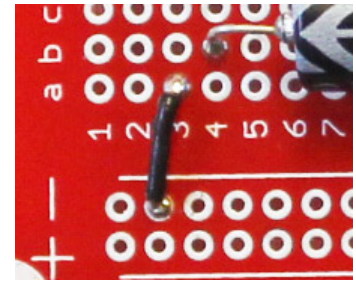

Figure 10
10. Prepare a solid black wire (22 AWG) and solder to hole a3 and a nearby hole in bottom negative power bus (see Figure 10).